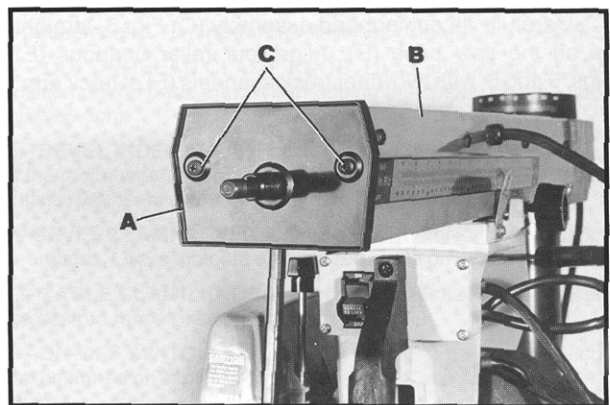

Fig. 9
1. Assemble end cap (A) Fig. 9, to track arm (B) with two 1/2 inch-long pan head screws (C).